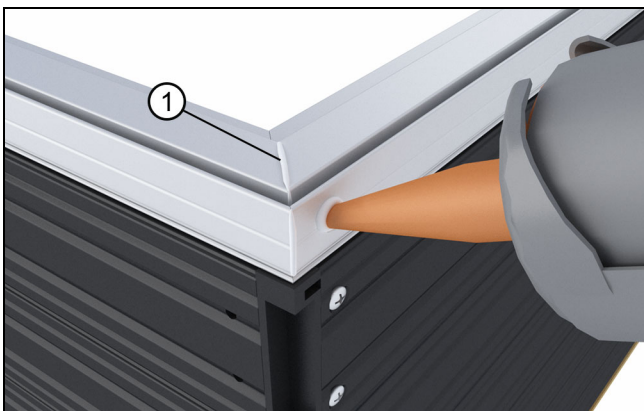

Figure 7
7. Inject both frame cladding corner key holes with sealant until squeeze out occurs. Fasten using a #8 x 1 1/2" flat head screw into each corner key. See Figure 7.